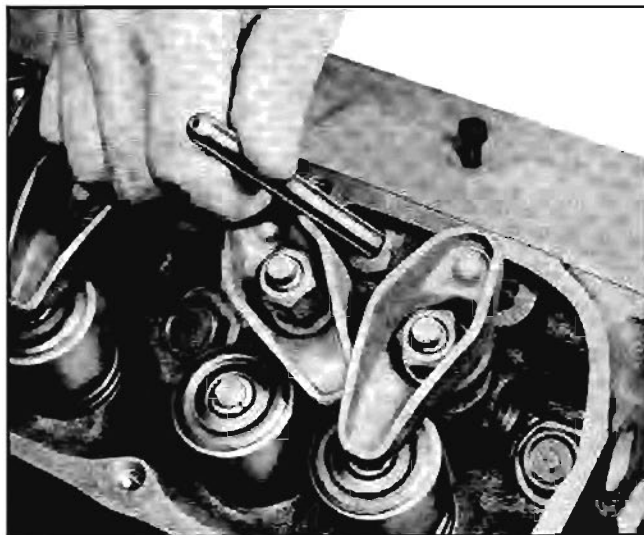

Fig. 6-17 Removing Push Rod
2. Loosen rocker arm nuts and rotate rocker arms to allow removal of push rods (Fig. 6-17).